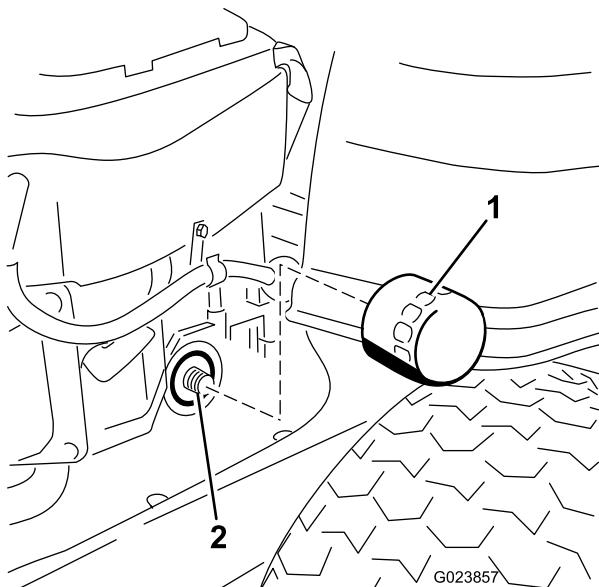

Figure 31
- Locate the oil filter on the right side of the engine, and remove the old filter and wipe off the filter adapter with a clean cloth (Figure 31).
- Turn the oil filter clockwise until the rubber gasket contacts the pad, then tighten the filter an additional 3/4 to 1 turn (Figure 31).